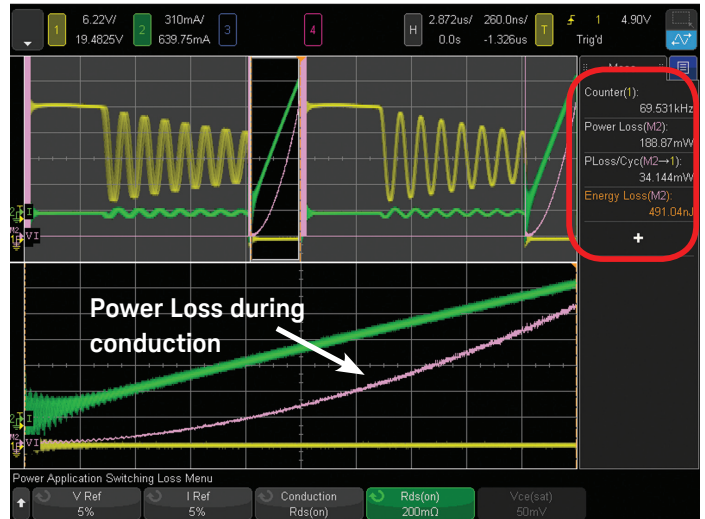

Figure 20: Windowing-in on the power waveform during the conduction phase
19. Re-adjust the waveform math vertical position knob to again center the power waveform (purple trace) on-screen without clipping the power waveform on either the top or bottom as shown in Figure 20. Note that adjusting the waveform math vertical position and scaling knobs is an iterative process until you obtain optimum scaling without clipping within just the zoom/lower display.